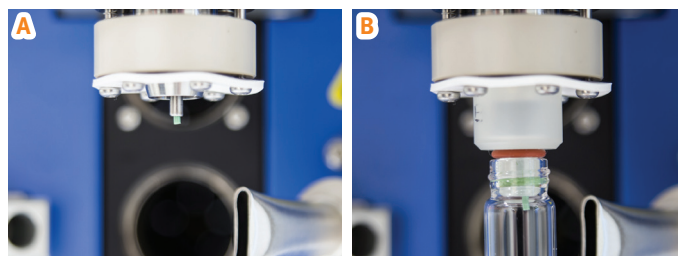

Figure 38. The vial tube must stick out 2 to 3 mm from the upper vial holder (A) or the upper vial adapter (B).
- Insert a green replacement tube (P/N 415064) into the sample inlet connection. Adjust the height of the tube as described in Figure 38 and then tighten the upper fitting.